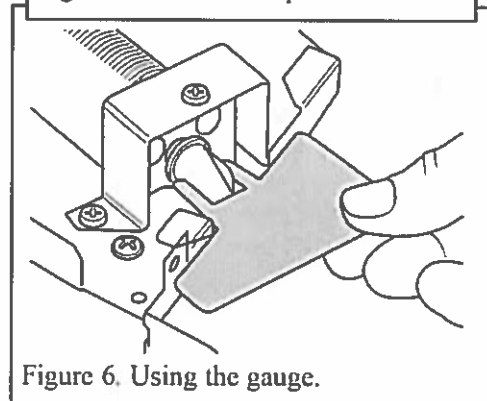

Figure 6. Using the gauge.
7. The kit contains an injector alignment gauge. It is important that this gauge is used to ensure that the injector is correctly aligned with the burner. Failure to check may result in poor combustion. After fitting the LPG burner place the gauge into the cut out at the side of the burner tray. The slot in the gauge should surround the injector as in figure 6. If the gauge will not fit, the injector alignment will require correction. To do this, support the top of the injector and gently rotate it. Continue to rotate and check with the gauge until correct.